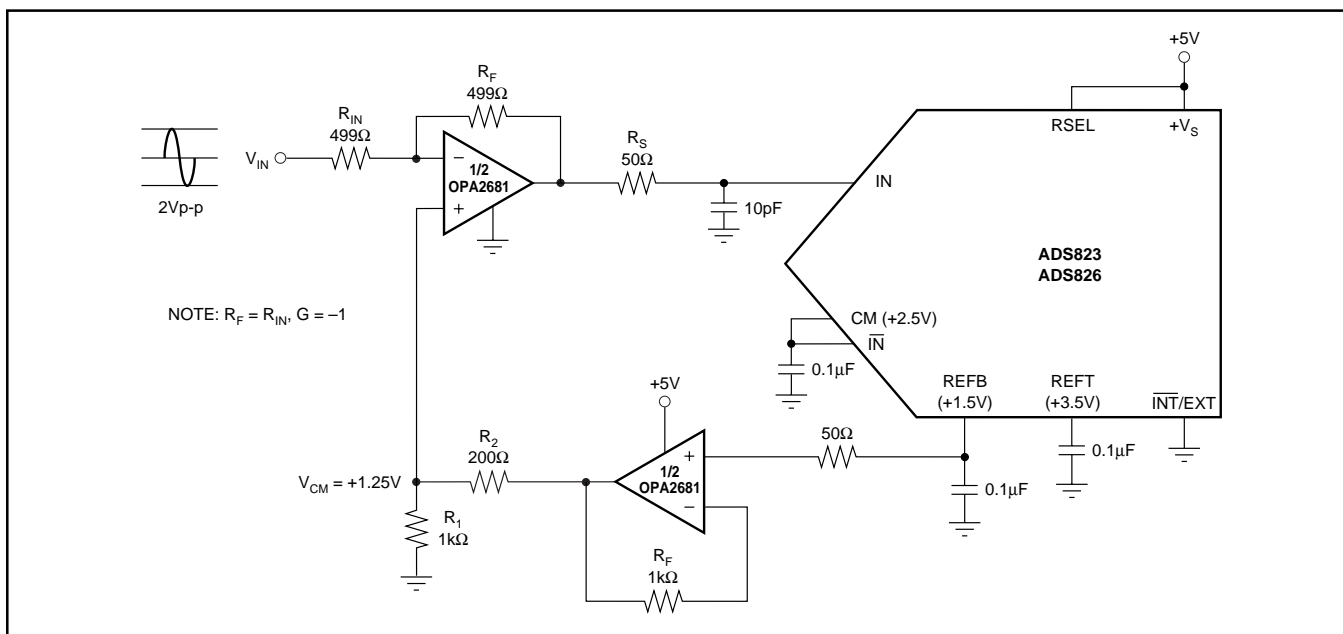

FIGURE 4. DC-Coupled Interface Circuit with Level-Shifting, Dual Current-Feedback Amplifier OPA2681.
Several applications may require that the bandwidth of the signal path includes DC, in which case the signal has to be DC-coupled to the ADC. In order to accomplish this, the interface circuit has to provide a DC level shift to the analog input signal. The circuit of in Figure 4 employs a dual op amp, A1, to drive the input of the ADS823 and ADS826, and level shift the signal to be compatible with the selected input range. With the RSEL pin tied to the supply and the INT/EXT pin to ground, the ADS823 and ADS826 are configured for a 2Vp-p input range and uses the internal references. The complementary input (IN) may be appropriately biased using